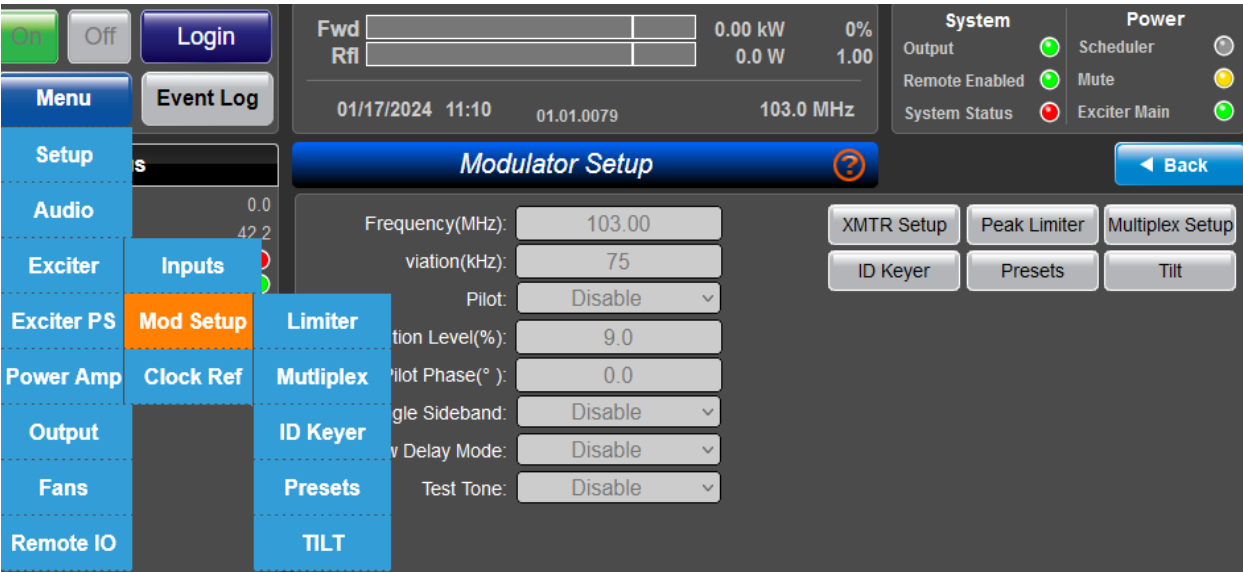

Figure 4-69 Modulator Setup
- Select **Menu > Exciter > Setup** to open up the Modulate Setup screen as shown in Figure 4-69.